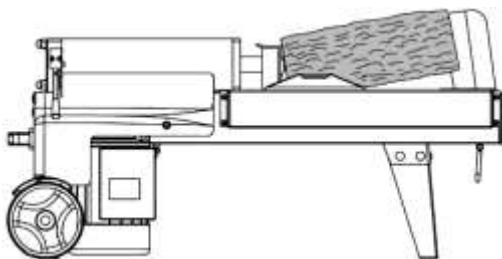

Fig. 1
1. Cut the log down to a height of 20 in. or less to ensure that it will fit between the wedge (E) and the work table (D).
3. Place the log on the work table so the wood grain is aligned with the wedge. Ensure that the log is stable on the retaining plates (H).
4. Set the log against the pusher (C) to ensure that the force will remain constant during splitting. Ensure that the log will be applied against the wedge's full depth. Splitting with just the top of the wedge may damage the wedge (Fig. 1).
5. Loosen the bleed screw (Q) so the opening is clear of the housing. Do not open too far, as the screw may fall out.